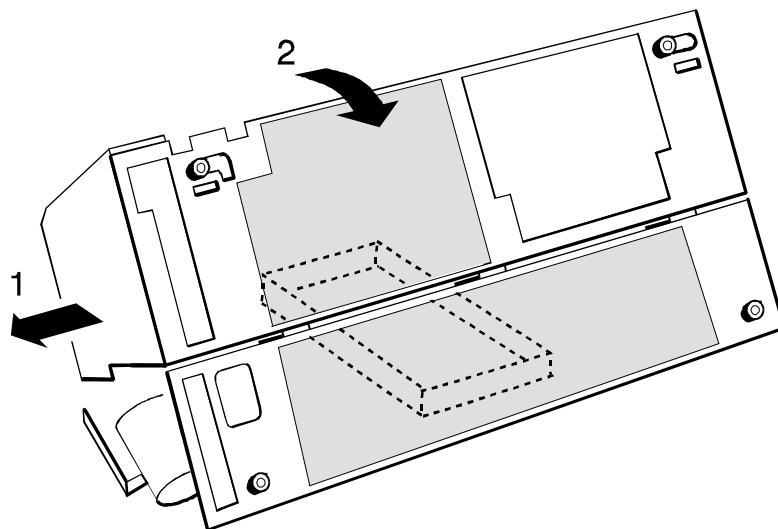

Figure 2
- ⇒ ● Remove the personality module (A)
- ⇒ ● Remove the plastic insert of the memory card interface (B)
- ⇒ ● Loosen screw (C)
- ⇒ ● Remove screws (D)
- ⇒ ● Disconnect the Device Electronic (E)
- ⇒ ● Disconnect the Control Unit (F)
- ⇒ ● Loosen the fixation screws of the power on switch and remove it (G)
- ⇒ ● Swivel the printer as shown in figure 2.
- ⇒ ● Shift the entire Electronic Subassembly to the left. (1)
- ⇒ ● Swivel it in the direction towards you and remove it from the printer engine. (2)